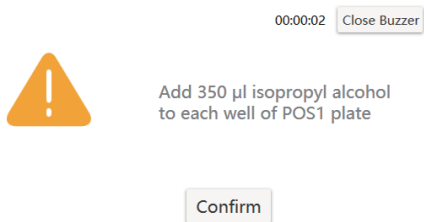

Figure 2-4 Add isopropanol interface
- After the process runs for 15 minutes, the interface as shown in Fig. 2-4 will appear. According to the reminder, take out the plate in POS1 and add 350  $\mu$ l isopropanol into each well with the pipette then put it back to POS1. Clicking the **Confirm** button, the process continues to run.